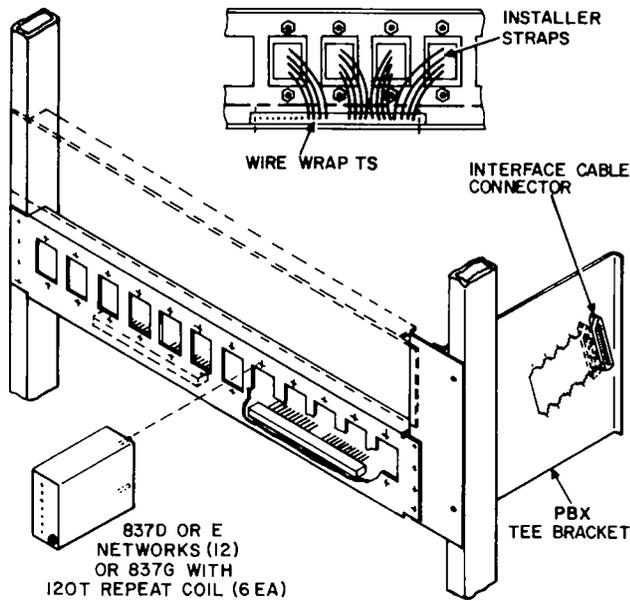
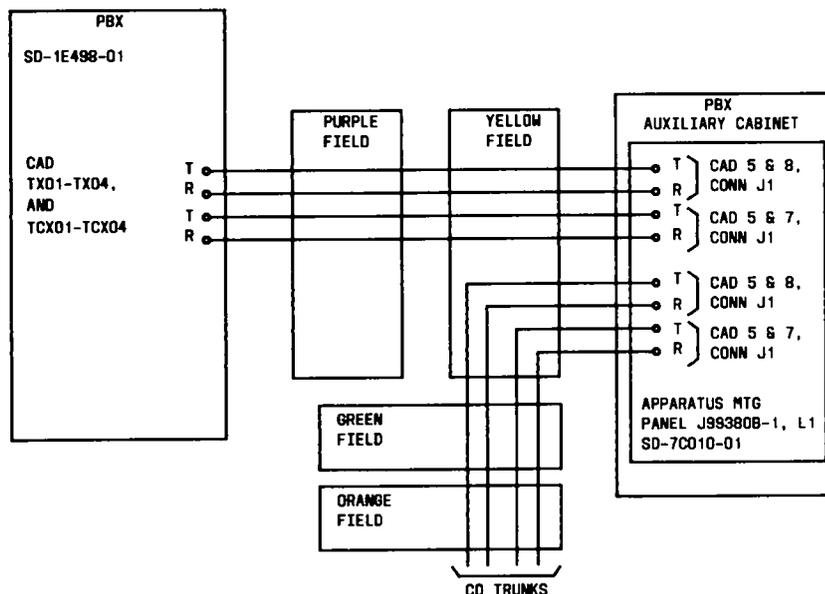

Fig. 17—Shelf and Assembly for 837-Type Networks (J99380B)
Fig. 18—Network Mounting Panel to DIMENSION PRELUDE PBX Interconnection (J99380B)
4.44 The terminal balancing network panel (J99380B) is shown in Fig. 17. Interconnection information for the terminal balancing network panel (J99380B) and DIMENSION PBX is shown in Fig. 18.